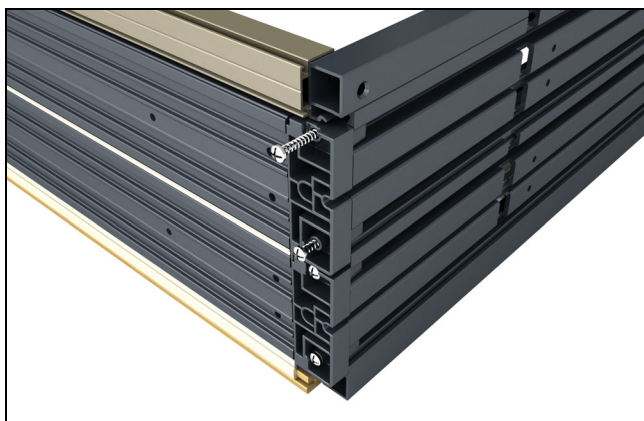

Figure 114
6. Align side jamb to sill by sliding corner keys into sill. Fasten side jamb and sill through corner keys using two #8 x 1 3/4" pan head screws per key. See figure 114.